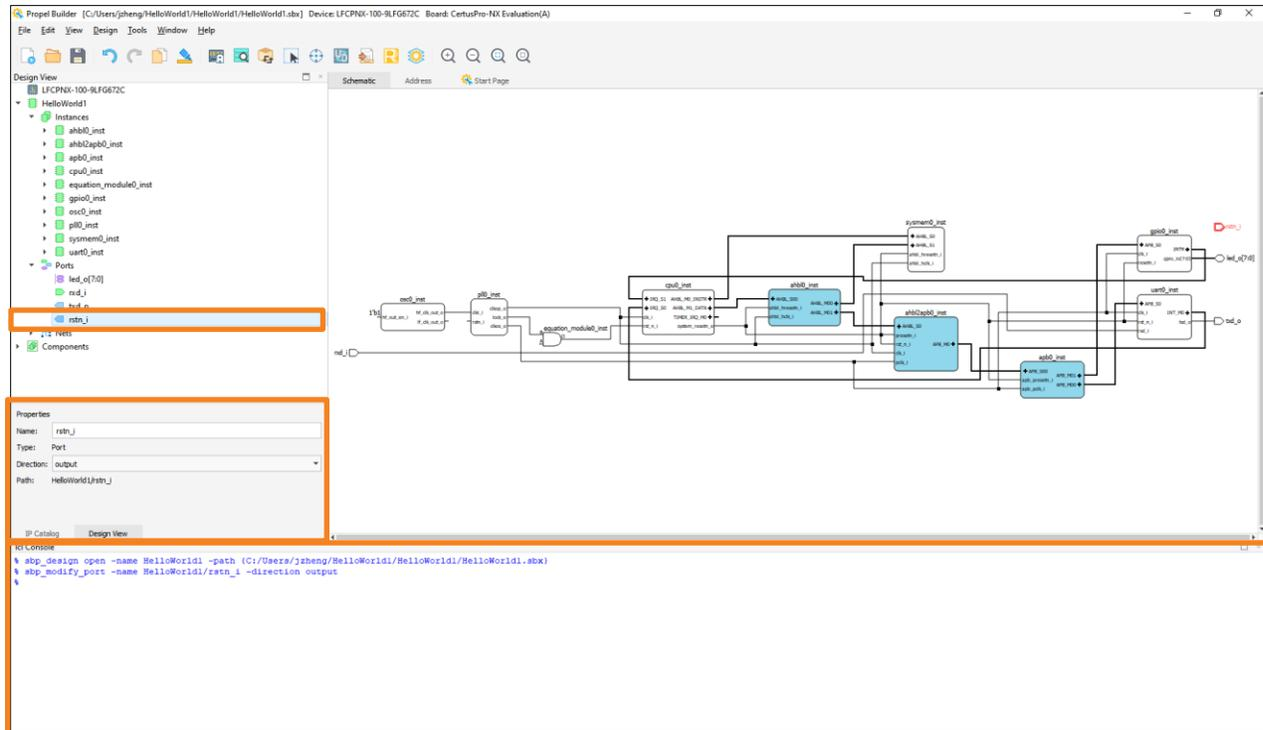

Figure 2.64. Port Direction
- b. Port direction can be modified. You can use the drop-down menu to choose the desired port direction. TCL command is shown in **Design View** (Figure 2.64).
**Note:** Port width can only be modified if it is already multi-bit. An error message is prompted out or shown in TCL console, if the input value does not meet rules (Figure 2.64).